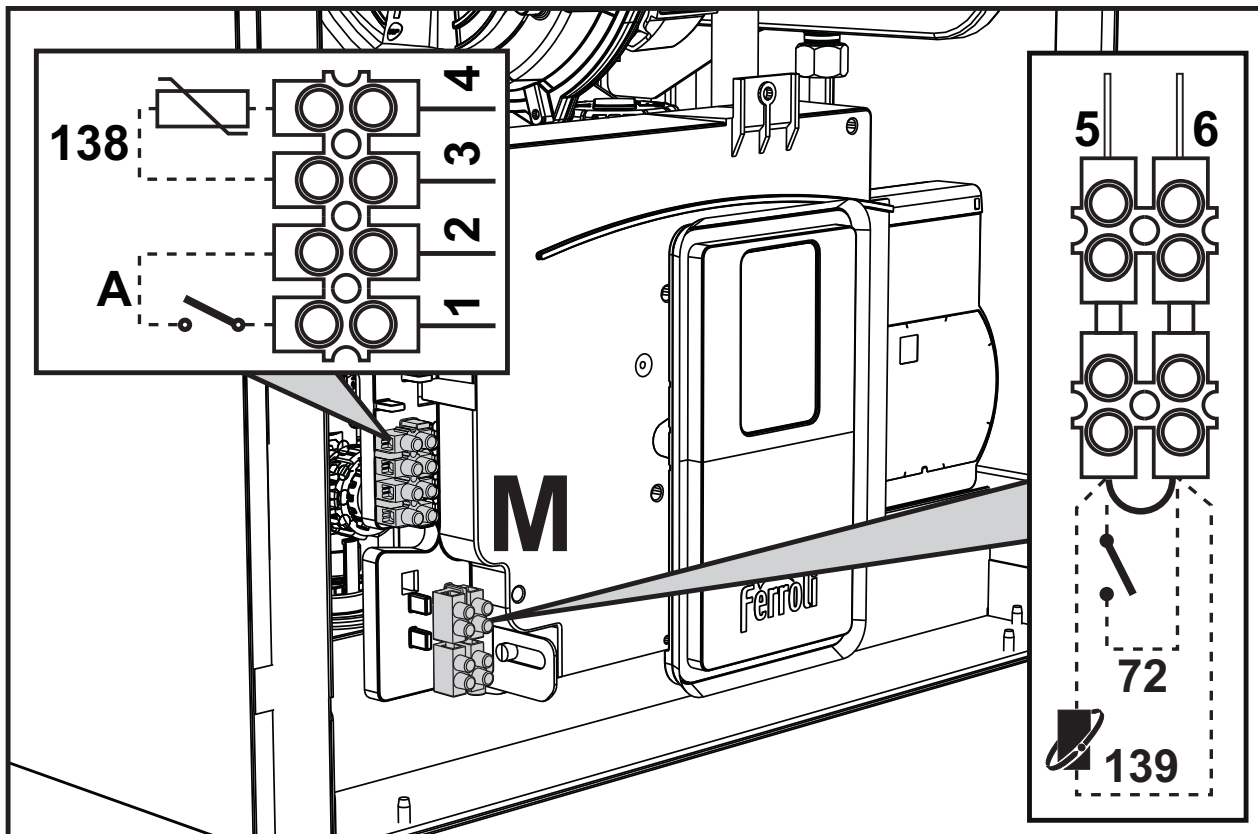
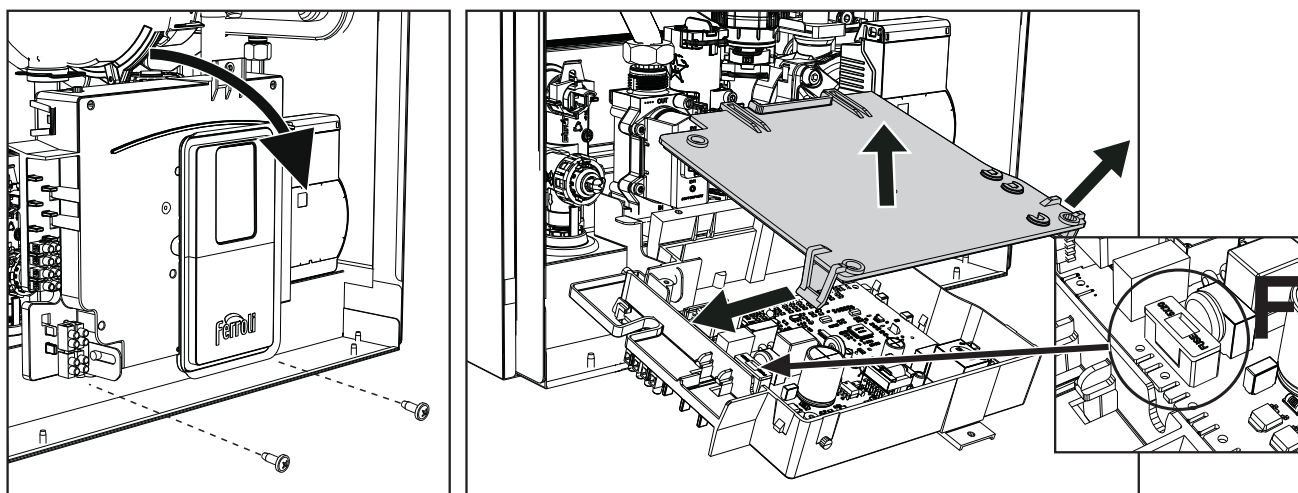

fig. 31
fig. 32
Remove the front panel ("Opening the front panel" on page 47) to access the terminal block (M) and fuse (F) by proceeding as follows (fig. 31 and fig. 32). **The terminals indicated in fig. 31 must be with voltage-free contacts (not 230V).** The arrangement of the terminals for the various connections is also given in the wiring diagram in fig. 85.
ON/OFF (A fig. 31) configuration